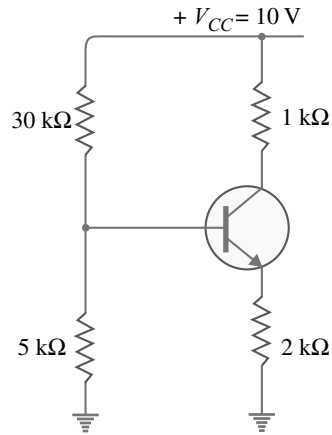

Fig. 7.61
8. In a transistor circuit shown in Fig. 7.61, find the operating point. Assume silicon transistor is used.  $[I_C = 0.365 \text{ mA}, V_{CE} = 8.9 \text{ V}]$